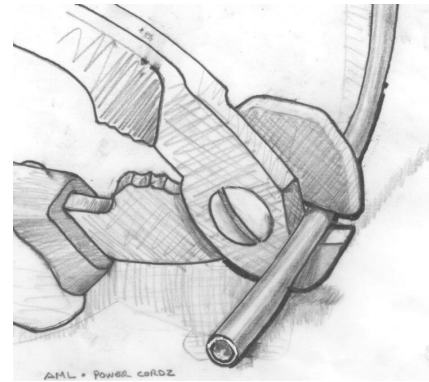

Fig. 1—Cut new housing to match original
1. First time installations of brake and derailleur cables may take 1 to 2 hours. Note original routing of cables and housing before removing. Cut new housing to match original (Fig. 1). Use awl to clean out and re-round housing ends.